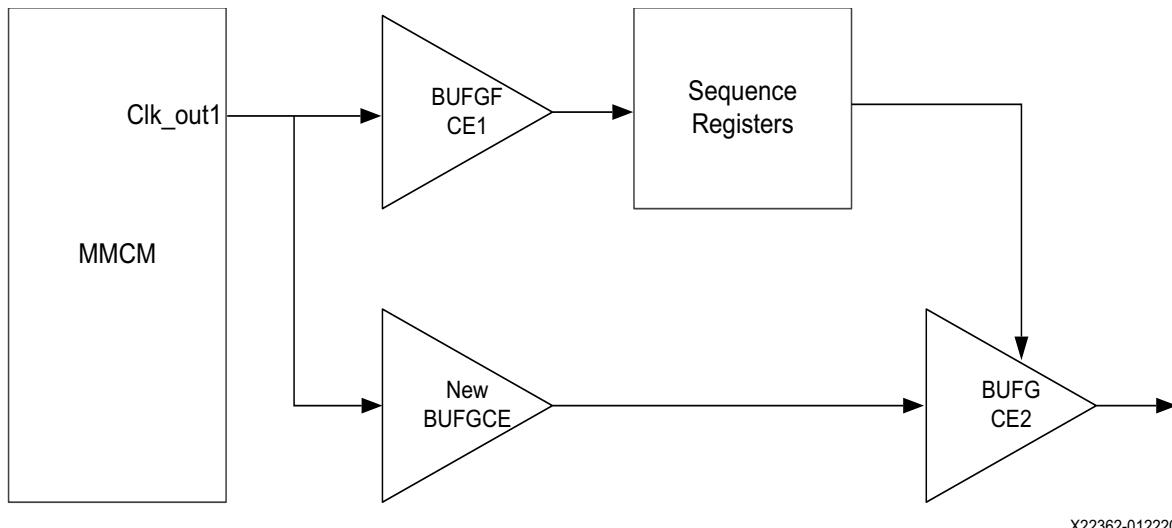

Figure C-1: Safe Clock Startup Failing Path
1. Add an additional BUFGCE cascaded in the failing clock path along with the existing BUFGCE in safe clock startup path. Figure C-1 shows the failing path for the `clk_out1`. Insert New BUFGCE between MMCM and the BUFGCE2 as shown below.